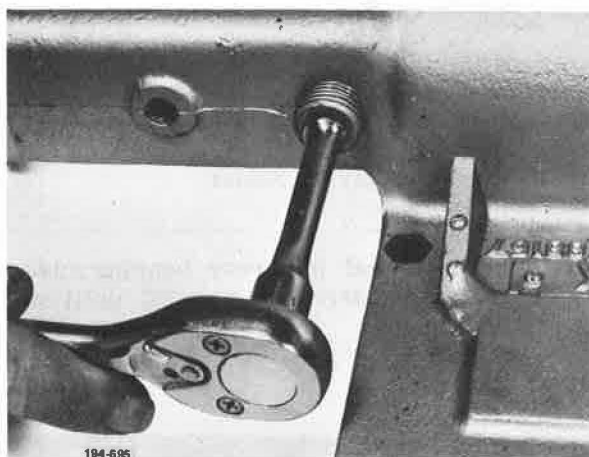

Figure 5-884. Installing Plug
18. Install interlock plunger plug into shift cover. See Figure 5-884.